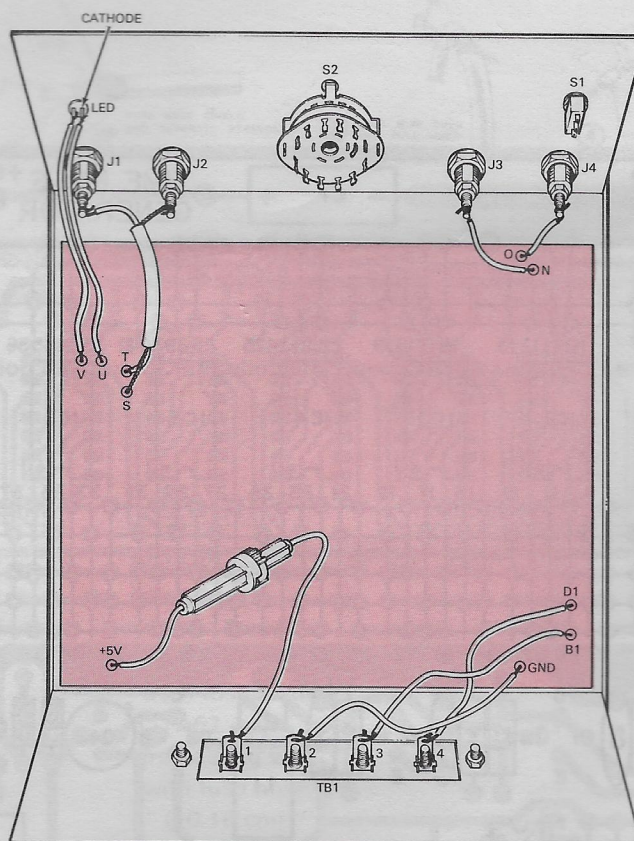

Figure 17.1 TIME BASE OPTION
- ☐ Place the Printed Circuit Board in the cabinet. DO NOT MOUNT YET. You should now be ready to connect the wires from the Printed Circuit Board to the cabinet mounted components. **The following hook up procedures apply only to the TIME BASE OPTION.** Use the "from" — "to" information provided on the HOOK UP SEQUENCE chart and Figure 17.1 and 17.2 as guides to correct point-to-point connection. For the first series of connections, refer to Figure 17.1 and the following part of the HOOK UP SEQUENCE chart. Connect and solder the applicable wires to the cabinet rear panel mounted components first.
Compare your wire connections to those shown in Figure 17.1 and 17.2 to ensure that you made all of your connections to the correct points.